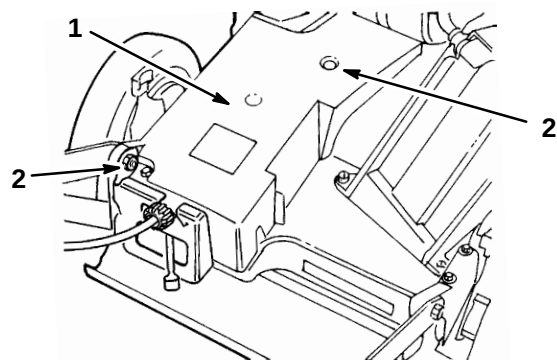

Figure 33
1. With the engine turned off, remove the (2) bolts securing the belt cover (Fig. 33) to the mower housing.